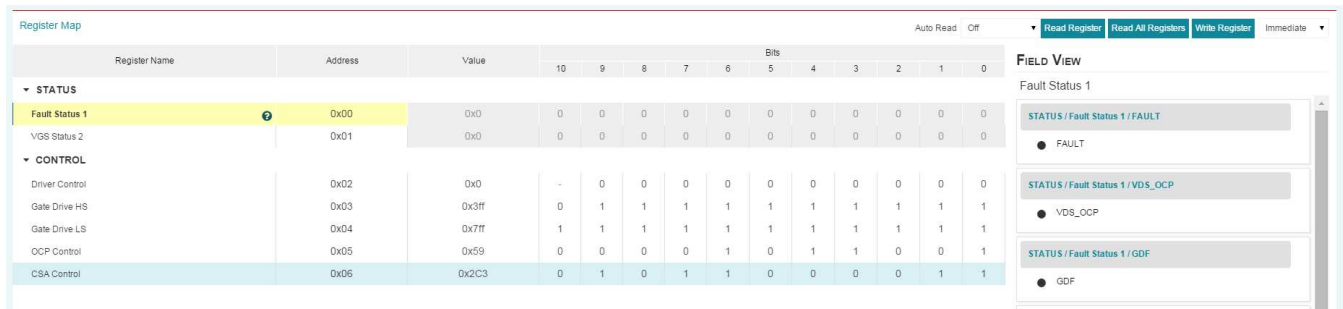

Figure 5. SPI REGISTER Page in GUI
3. See the description for each parameter shown in Figure 5 in the following code comments: